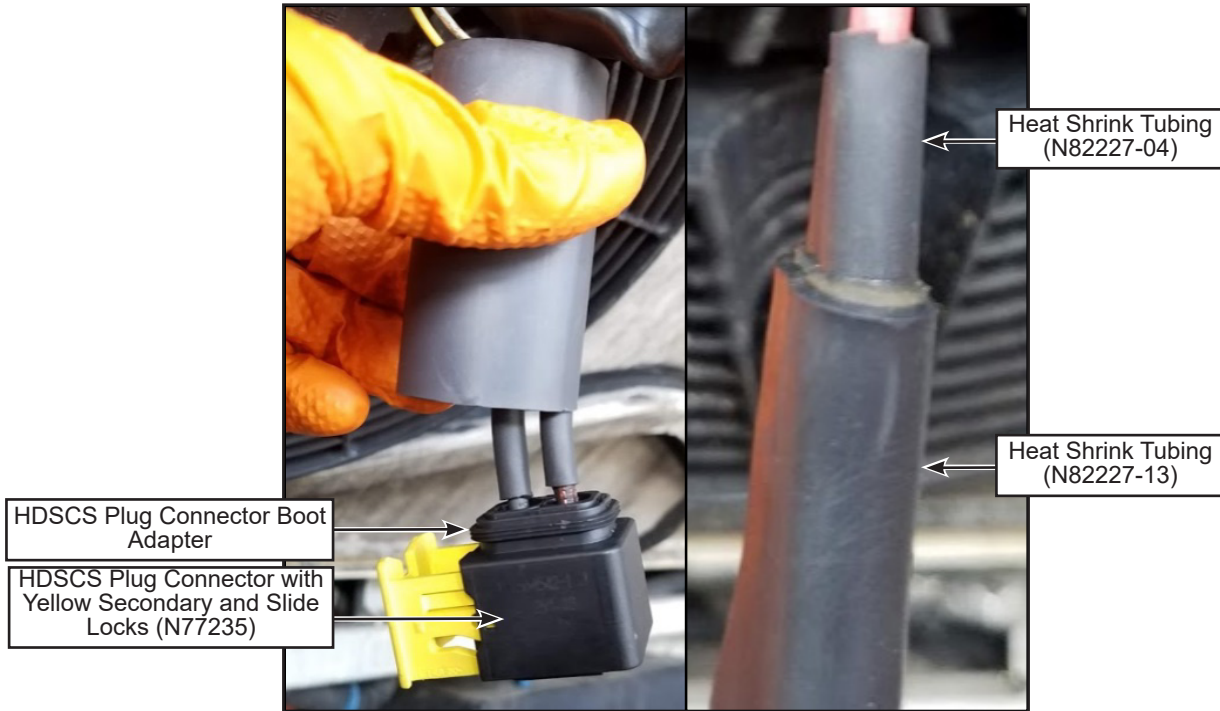

Figure 9 - Heat Shrink Tubing Installation on HDSCS Plug Connector Wiring at Fan Side
- 1.15. Insert the RED wire terminal into position 1 and the BLACK wire terminal into position 2 of the HDSCS plug connector PN N77235 (see figure 9). Make sure that the yellow secondary lock of the plug connector is completely pressed (to move it from the unlocked to the locked position) after inserting both terminals. Refer to Annex 2 for detailed instructions about terminals insertion and secondary lock.
- 1.16. Using a heat gun, apply the large heat shrink tubing PN N82227-13 starting from the boot adapter of HDSCS plug connector finishing directly over the smaller heat shrink tubes previously installed on the power wires (see figure 9). Make sure to fill any gap between the two power wires with the inner adhesive liner glue (do not apply heat shrink tubing over tape or loom).
- 1.27. Using a heat gun, apply the large heat shrink tubing PN N82227-13 starting from the boot adapter of HDSCS receptacle connector finishing directly over the smaller heat shrink tubing previously installed on the power wires (see figure 9). Make sure to fill any gap between the two power wires with the inner adhesive liner glue (do not apply heat shrink tubing over tape or loom).